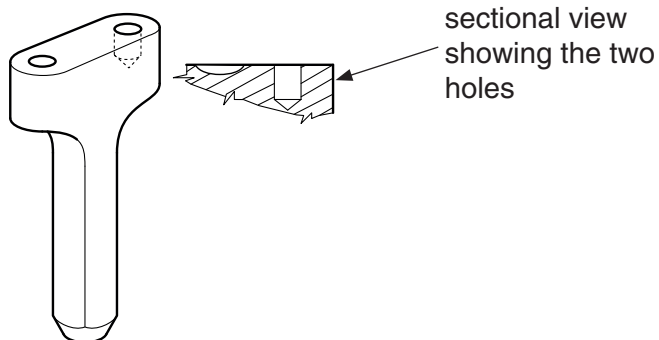

Fig. 5
- 7 Fig. 5 shows a tool that is used in a workshop.
Explain why the tool shown in Fig. 5 has two different shaped holes.